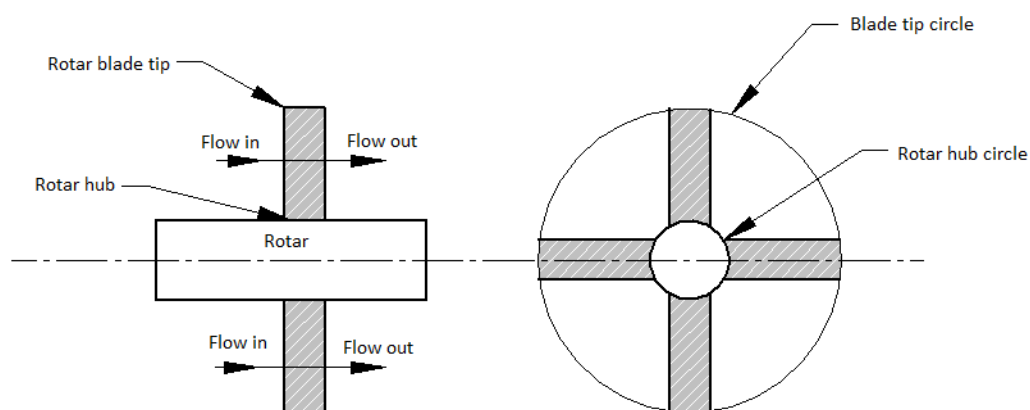

Fig. 3.5 Axial flow turbine
**3.4.1 Axial Flow Turbines:** Axial flow machine are those in which the fluid enters and leaves the rotor at the same radius as shown in figure 3.5. Hence, for axial flow turbines  $U_1 = U_2$ . In these kinds of machines, the flow velocity ( $V_f$  or  $V_a$ ) is assumed to be constant from inlet to outlet. Axial flow turbines comprise the familiar steam turbines, gas turbines etc.